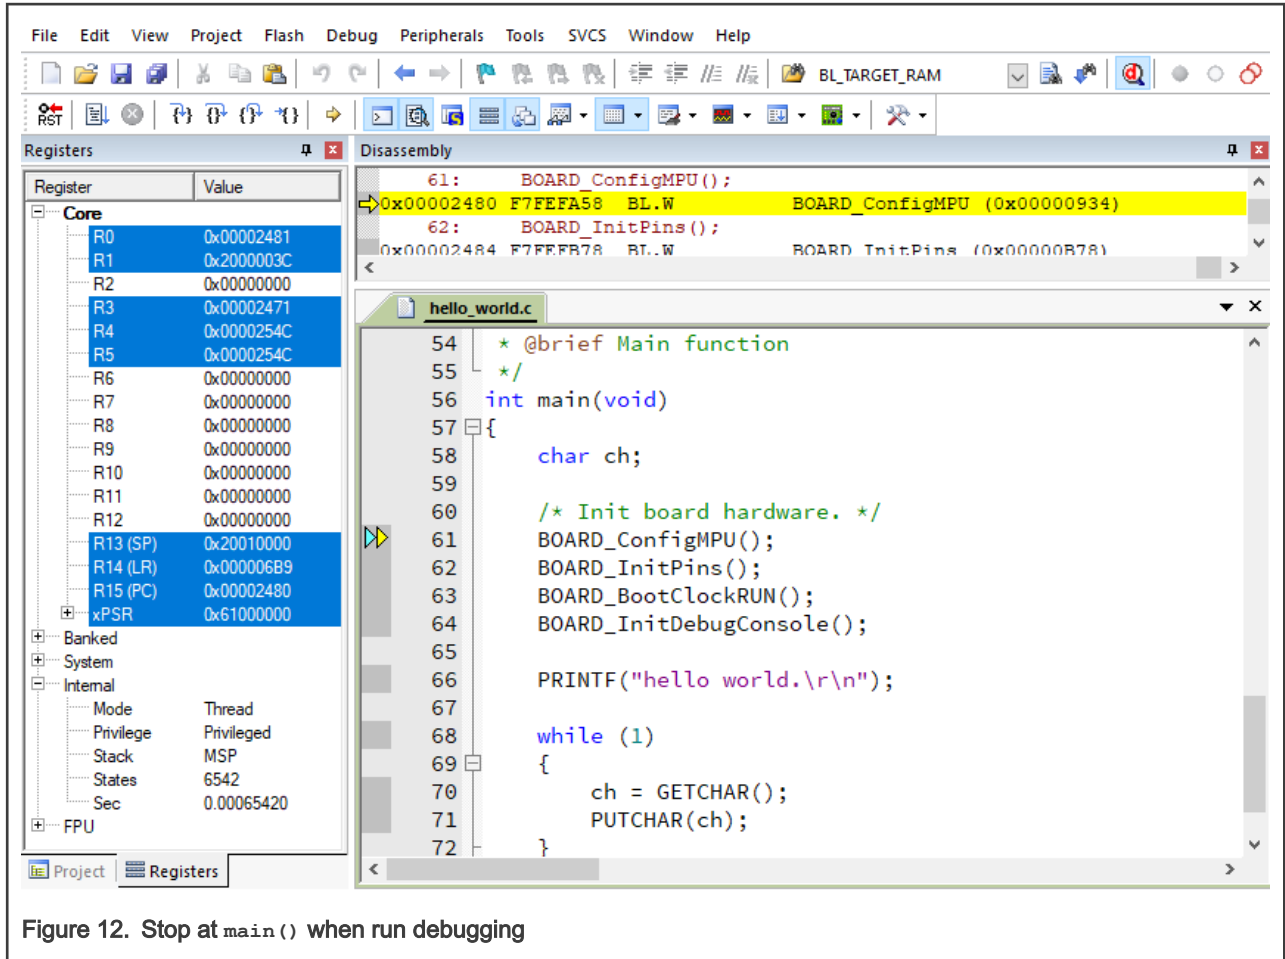

Figure 12. Stop at main() when run debugging
- To debug the application, click **load** (or press the F8 key). Then, click the **Start/Stop Debug Session** button, highlighted in red in Figure 12. If using J-Link as the debugger, click **Project option >Debug >Settings >Debug >Port**, and select **SW**.